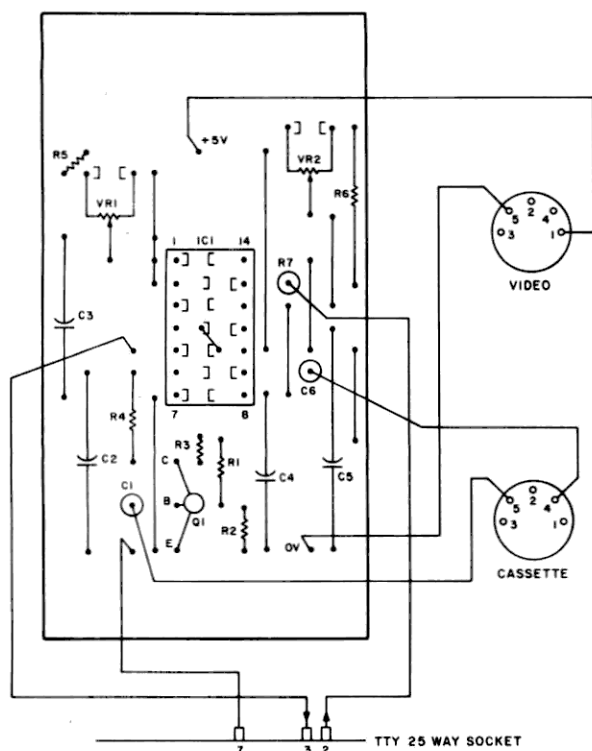

Fig. 2.
0.1-inch matrix board in Fig. 2.